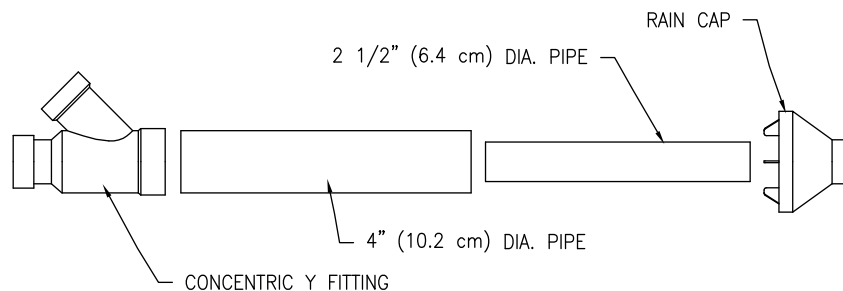
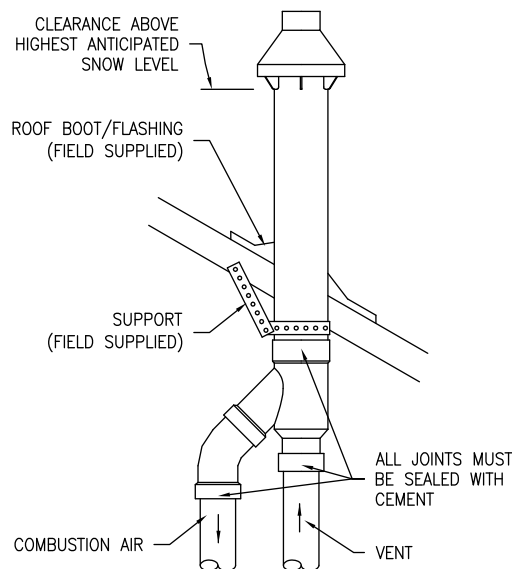

Figure 20. Concentric Vent Kit Part Identification
Figure 22. Concentric Vent Roof Top Attachment
- a. Cement concentric Y fitting to larger diameter pipe. (See Figure 20).
6. Secure assembly to roof structure as shown in Figure 22 using field-supplied metal strapping or equivalent support material.
Ensure termination height is above the roof surface or anticipated snow level. Figure 22.
8. Cement heater combustion-air and vent pipes to concentric y fitting assembly (Figure 20). See Figure 22 for proper pipe attachment.
- a. Cement Y concentric fitting to larger diameter kit pipe. (See Figure 20).